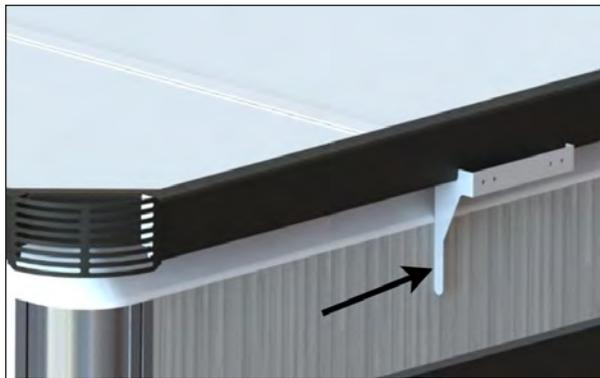

FIGURE 72: TEMPLATE LONG ARM POSITION
2. Ensure that the long arm of the drilling template is resting on the swim spa while the C-channel bottom portion is snug on the template see Figure 72.